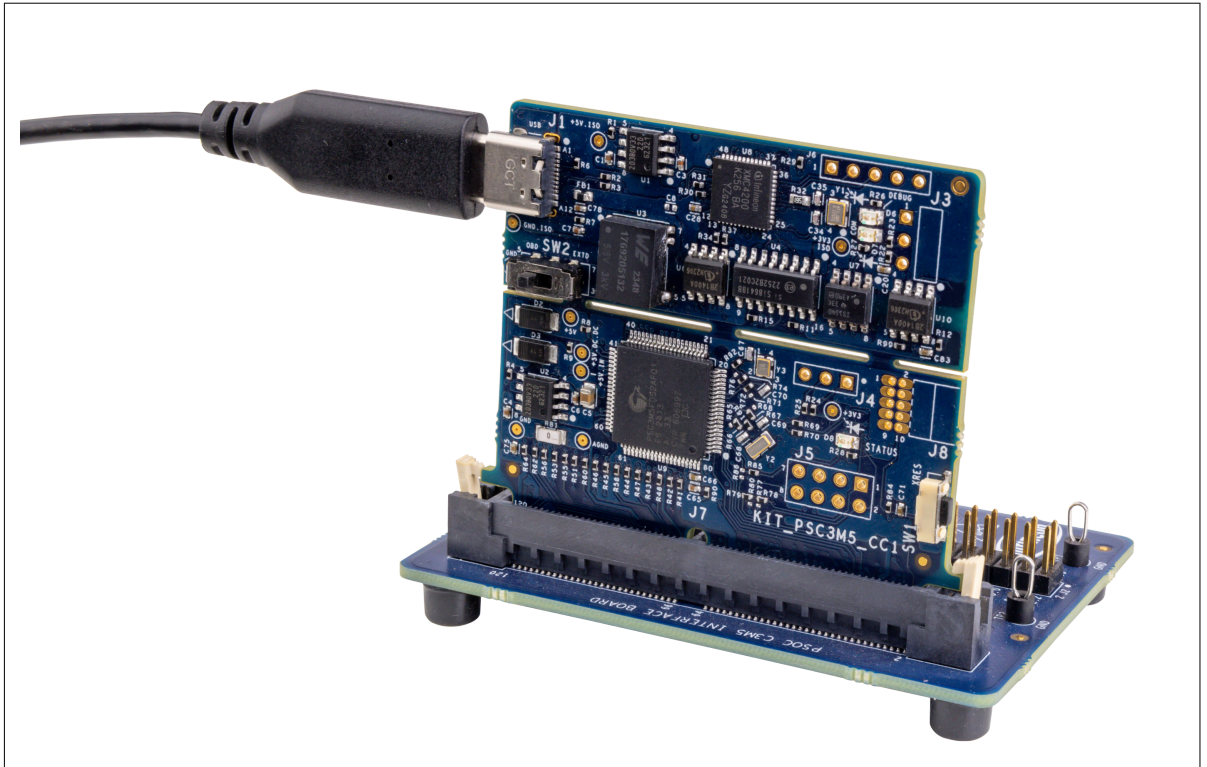

Figure 5 USB connection on CC1 card
1. Keep the KIT_PSC3M5_CC1 unplugged from the KIT_PSC3_LLC1. Connect the KIT_PSC3M5_CC1 board to the PC using the provided USB cable through the J-Link USB connector, as shown in Figure 5. When connected for the first time, the board enumerates as a USB composite device.